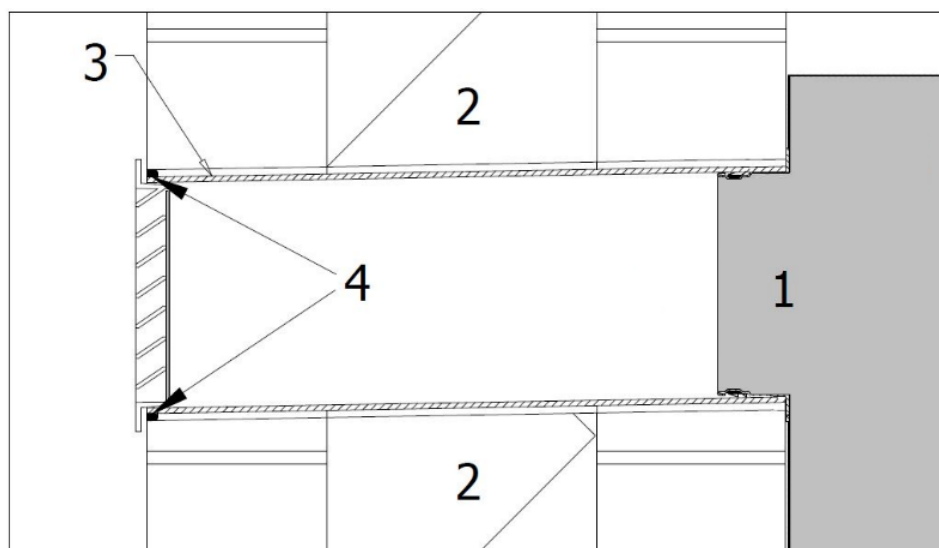

Figure 18: Sealing the gaps around ducts, sectional drawing
Figure 18 below is a sectional drawing depicting a wall with a duct hole and duct fittings. A unit is installed on the inner wall, i.e. the grey box on the right-hand side marked with the number '1'.
- Apply sealant to the ducts outside edges, see '4' in Figure 18 above.